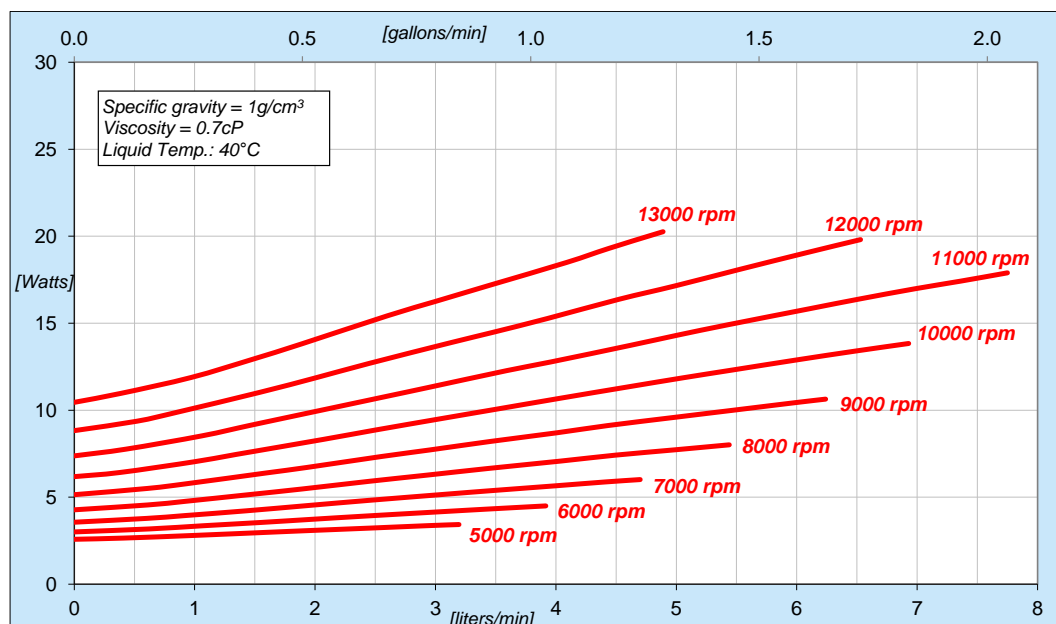

Figure 18: Electrical power consumption
2. For other power supplies an open wire power cable for connection to the driver is specified in *Table 3* (cable type ICP-1.1). Depending on the required hydraulic operational point (see *Figure 11*), the pump system requires 24V with a maximum power of 35 W. At a lower performance power supplies with smaller power or bigger supplies to supply several pump systems simultaneously may be used. Consult *Figure 18* to get the power consumption depending on the flow. If other power supplies are used, than the one recommended by Levitronix®, it is highly recommended to test these under dynamic conditions (acceleration and braking of the pump rotor speed).